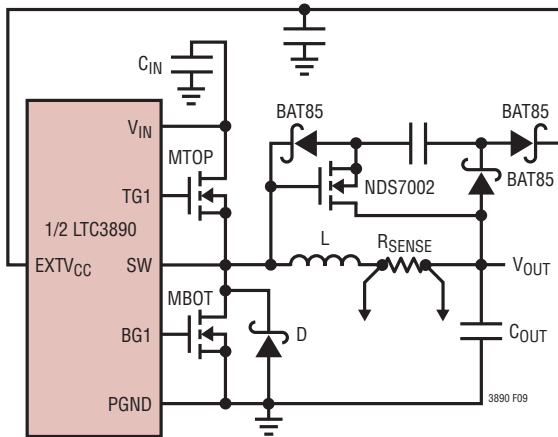

Figure 9. Capacitive Charge Pump for EXT_{VCC}
4. EXTV_{CC} Connected to an Output-Derived Boost Network. For 3.3V and other low voltage regulators, efficiency gains can still be realized by connecting EXTV_{CC} to an output-derived voltage that has been boosted to greater than 4.7V. This can be done with the capacitive charge pump shown in Figure 9. Ensure that EXTV_{CC} < V_{IN}.